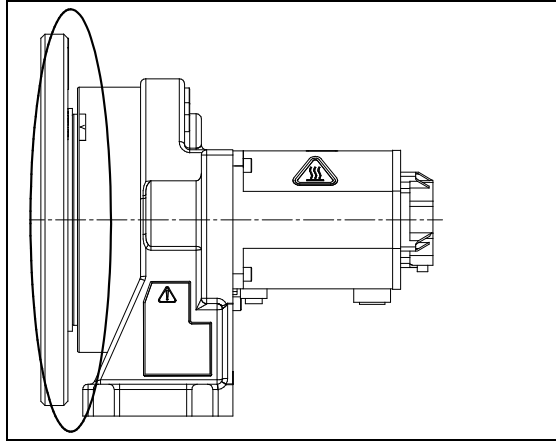

Fig. 2.2.2 Check points of oil seepage
- Oil might accumulate on the outside of the seal lip depending on the movement condition or environment of the axis. If the oil viscosity changes, the oil might drip depending on the axis movement. To prevent oil spots, be sure to wipe away any accumulated oil under the axis components in Fig. 2.2.2 before you operate the positioner.